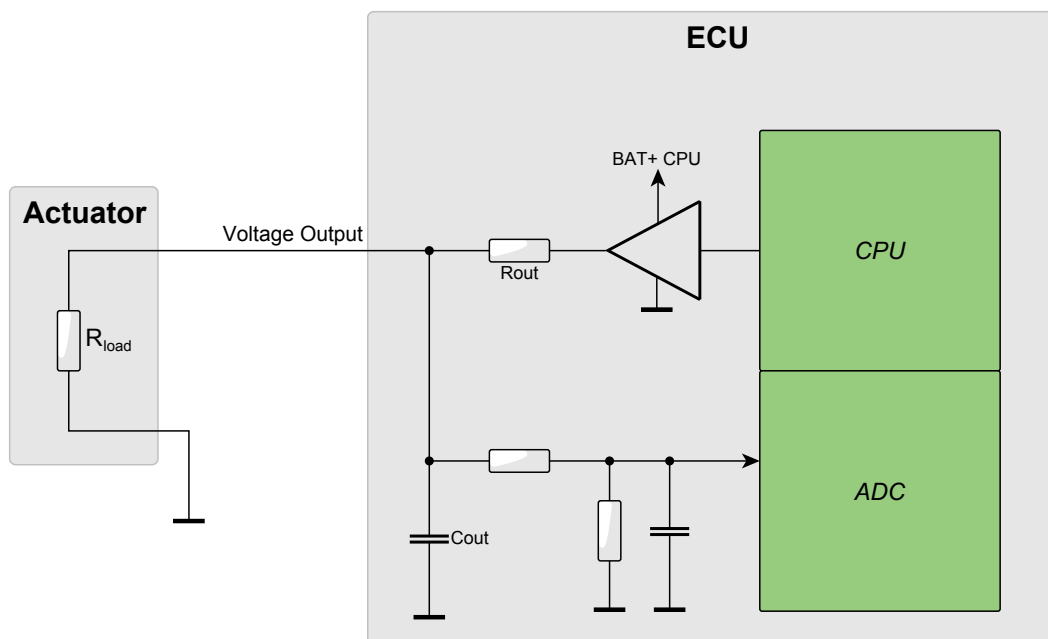

Figure 48: Output stage in  $V_{OUT}$  mode
**NOTE** Figure 48 shows BAT+CPU supply. For pins which support function LPO\_VOUT, variable sensor supply can be used instead for a stable voltage that is independent of the battery.